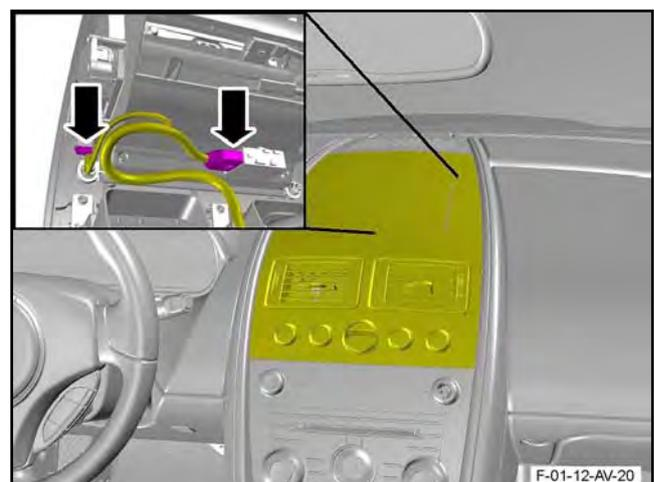

Figure 30
- 39. Disconnect the two electrical connectors from the navigation display screen (refer to Figure 30).